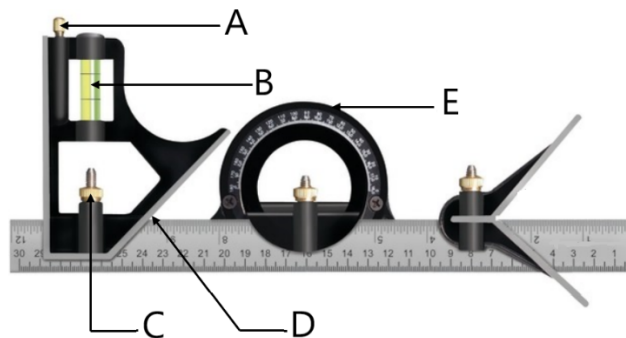

FIGURE 3
4.1 FIGURE 3 shows an outside view of a combination square.